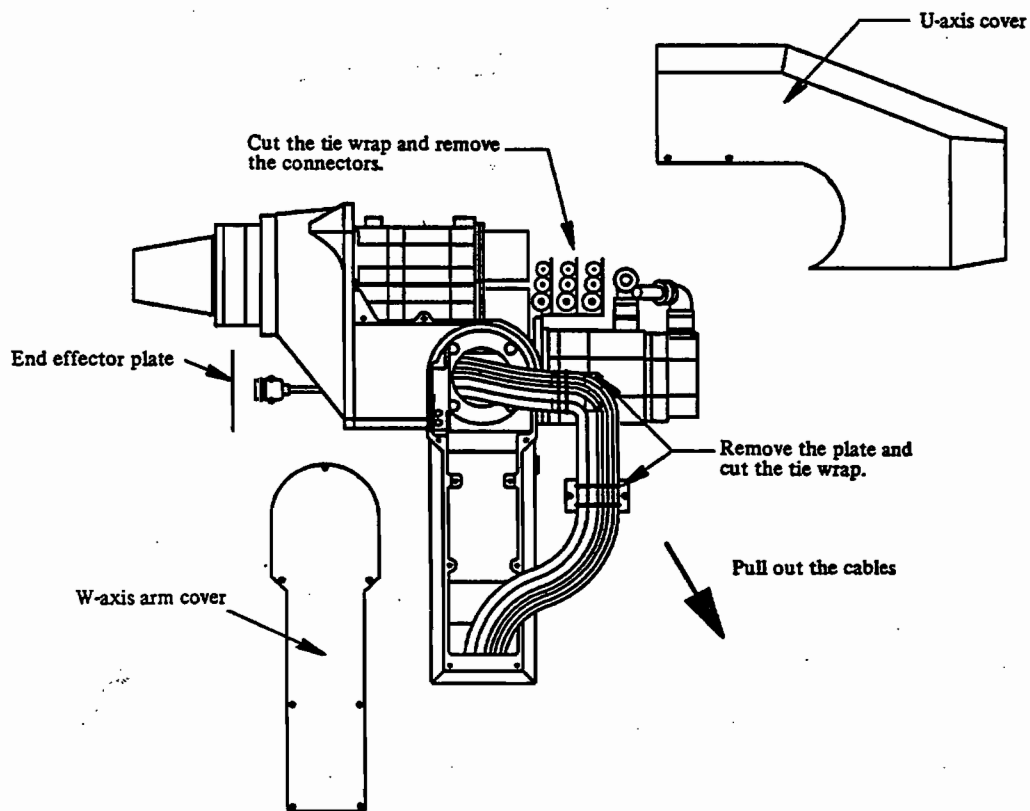

Fig. 7.2 (a) Replacing cables (S-700)
- ⑥ Remove the side cover of the W-axis base and remove the plate and cable guide clamping the cable. (See Fig. 7.2 (b).)
- ⑦ Cut the tie wrap and pull out the cables.